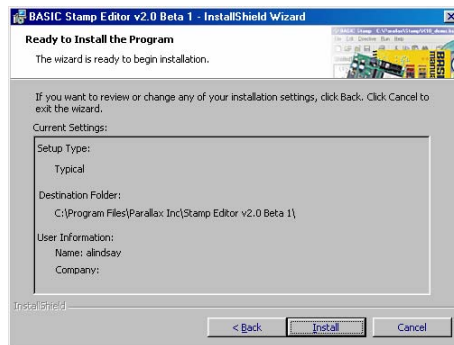

Figure 1-16
- √ When the InstallShield Wizard tells you it is “Ready to Install the Program”, click the Install button shown in Figure 1-16.